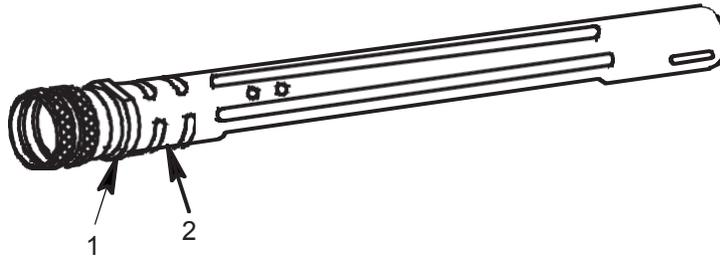

Figure 1. Gas Cylinder Assembly
1. Visually inspect gas cylinder assembly for dents and burrs, and inspect tube (Figure 1, Item 2), and head (Figure 1, Item 1) for rotational movement. Visually inspect tube (Figure 1, Item 2) and head (Figure 1, Item 1) for leakage (evidence of white deposit) between tube (Figure 1, Item 2) and head (Figure 1, Item 1) of gas cylinder assembly.